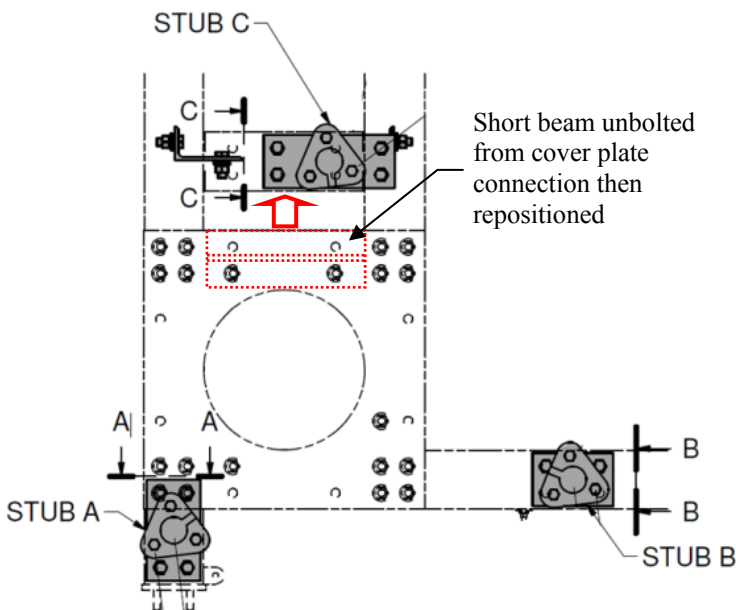
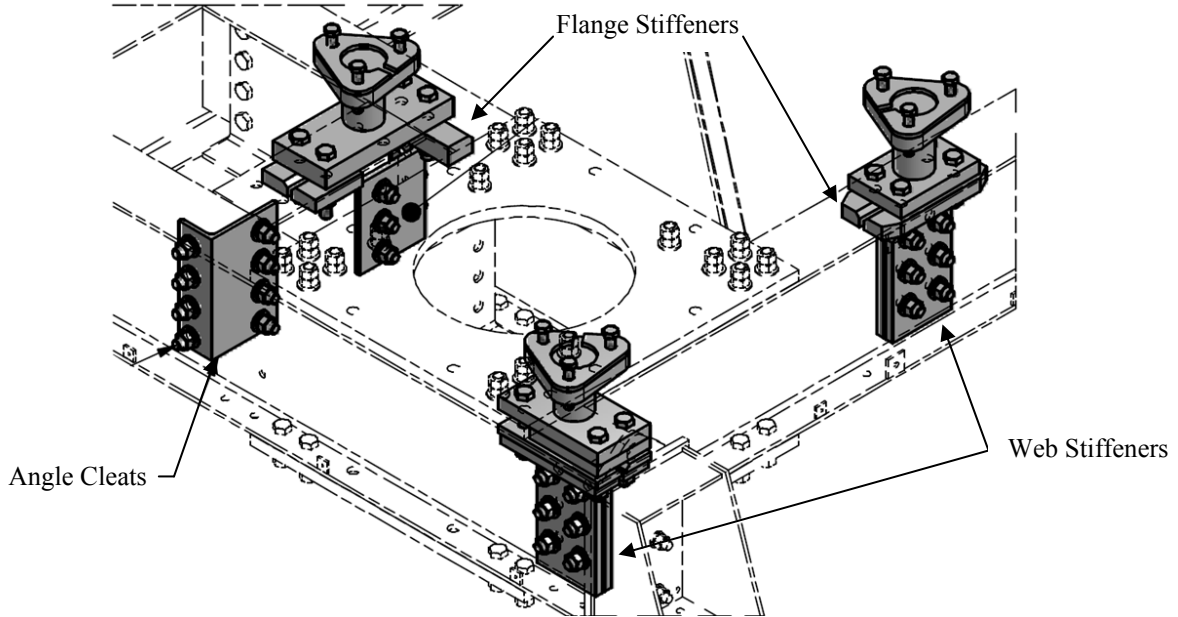

Figure 1: Plan View of Stub Layout
Figure 3: 3D View of Stub, Angle Cleat and Stiffener Layout
1. The short beam (RDS115 for 15m RDS, RDS69 for 20m RDS) supplied with the RDS frame is to be unbolted from the cover plates, with PAL nuts removed and discarded, and repositioned using the angle cleats provided, as detailed in NTPO & FLI drawings stated in the above relevant drawing list, and figures 1 & 2 below for detail.
1. The short beam (RDS115) supplied with the RDS frame is to be unbolted from the cover plates, with PAL nuts removed and discarded, and repositioned using the angle cleats provided, as detailed in NTPO & FLI drawings stated in the above relevant drawing list, and figures 1 & 3 for detail.
2. Bolt all web stiffeners to the RDS frame as detailed in NTPO & FLI drawings in the above relevant drawing list and Figure 3 below.
3. Bolt all three adaptor stubs to the RDS frame, ensuring that the included packer plate for Stub A (see figure 1) and flange stiffeners are installed, as detailed in FLI and NTPO drawings in the above relevant drawing list and figure 3.